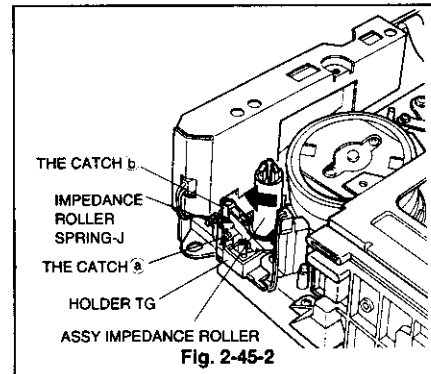
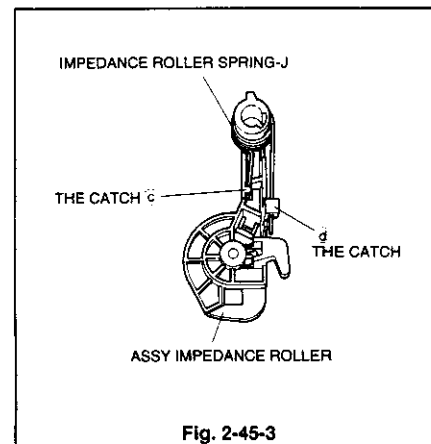
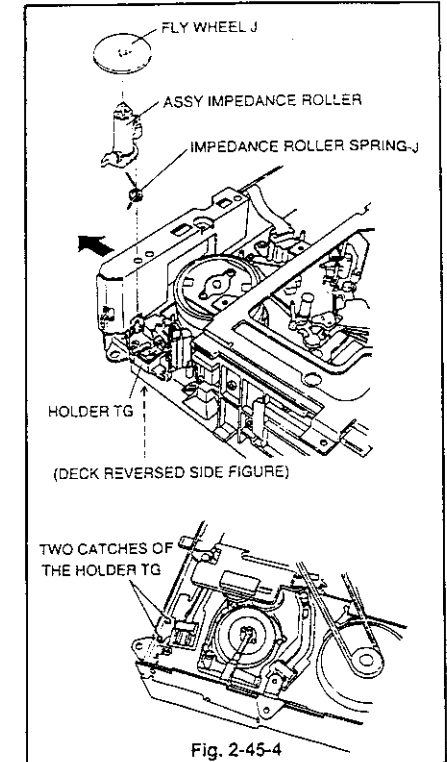

Fig. 2-45-2
Fig. 2-45-3
Fig. 2-45-4
- ① Unfasten the catch to remove the FLY WHEEL J.
- ② Remove the IMPEDANCE ROLLER SPRING-J from the catch ③ shown in Fig. 2-45-2.
- ③ Shift the ASSY IMPEDANCE ROLLER in the direction shown by the arrow. Unfasten the catch ④ and raise the ASSY IMPEDANCE ROLLER to remove it from the HOLDER TG.
- ④ Unfasten two catches of the HOLDER TG on the reverse side to remove the HOLDER TG. [Fig. 2-45-4]
- ① Mount the HOLDER TG on the MAIN PLATE. [Fig. 2-45-4]
- ② Hook the one side of the IMPEDANCE ROLLER SPRING-J to the catch ③ and the other side to the catch ④ to install the IMPEDANCE ROLLER SPRING-J on the ASSY IMPEDANCE ROLLER. [Fig. 2-45-3]
- ③ Install the ASSY IMPEDANCE ROLLER, to which the IMPEDANCE ROLLER SPRING-J is attached, on the HOLDER TG.
**NOTE:** Installation of the ASSY IMPEDANCE ROLLER will be easier by pulling the PCB-HA/AUDIO slightly in the direction shown by the arrow in Fig. 2-45-4.